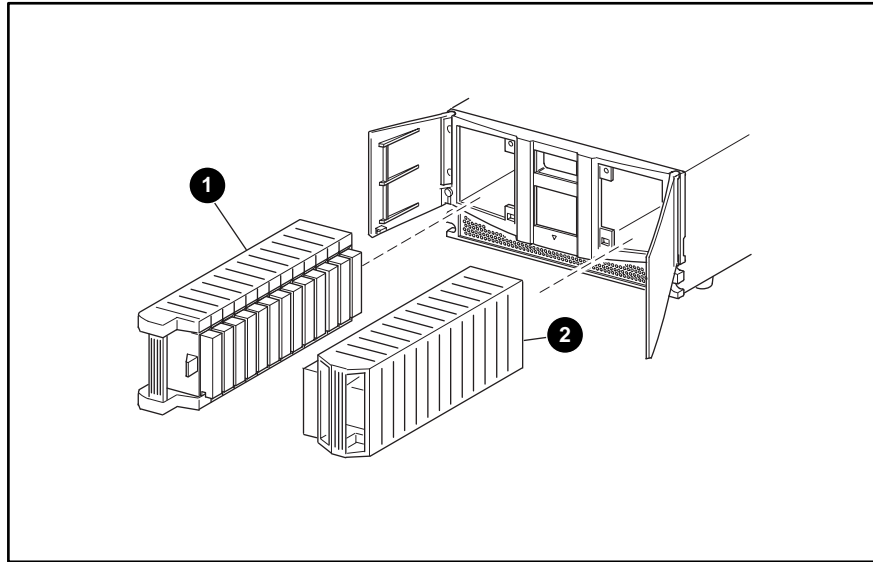

Figure 2-2: Magazine Removal
3. The magazine can now be removed. See Figure 2-2.